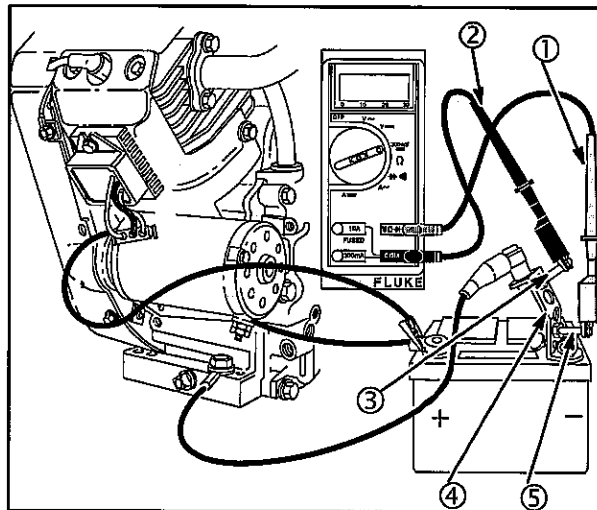

Fig. 32
The DC Shunt **must** be installed on the **NEGATIVE** (-) terminal of the battery, Fig. 32 to avoid blowing the fuse in the meter when testing the output of the 20 amp system. All connections must be clean and tight for correct readings.
2. Install DC shunt #19359 (4) on **NEGATIVE** battery terminal.
3. Insert RED test lead into $V\Omega$ receptacle in meter and connect to RED post terminal on shunt (5), Fig. 32.
4. Insert BLACK test lead into **COM** receptacle in meter. Connect to BLACK post terminal on shunt (3).